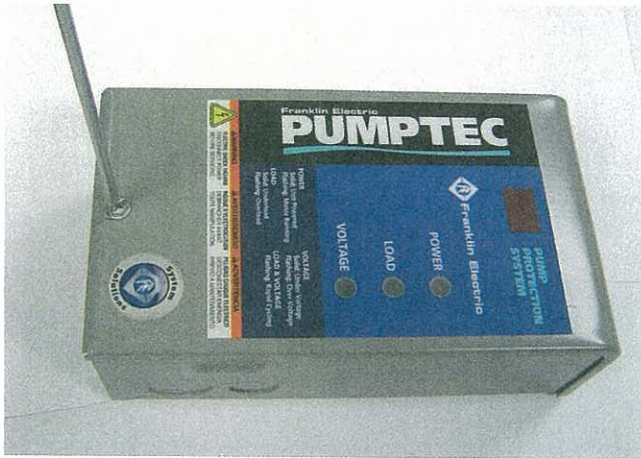

Figure 1
2. Loosen lid screw and remove cover from the base (Figures 1 & 2).